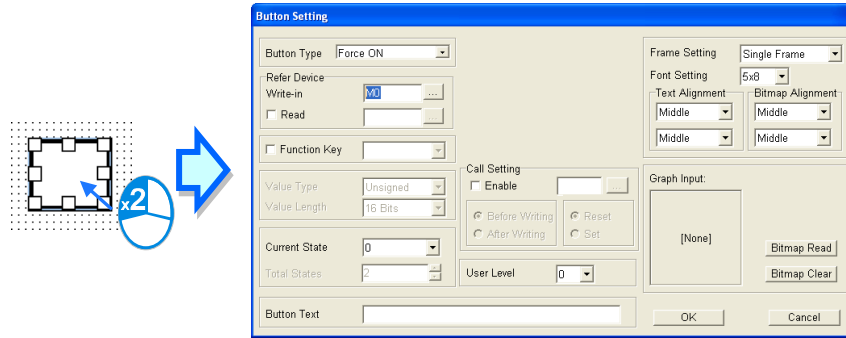

Figure 6-16 Button Setting window
- Step 3: After the users double-click , the **Button Setting** window will appear, as shown in Figure 6-16.